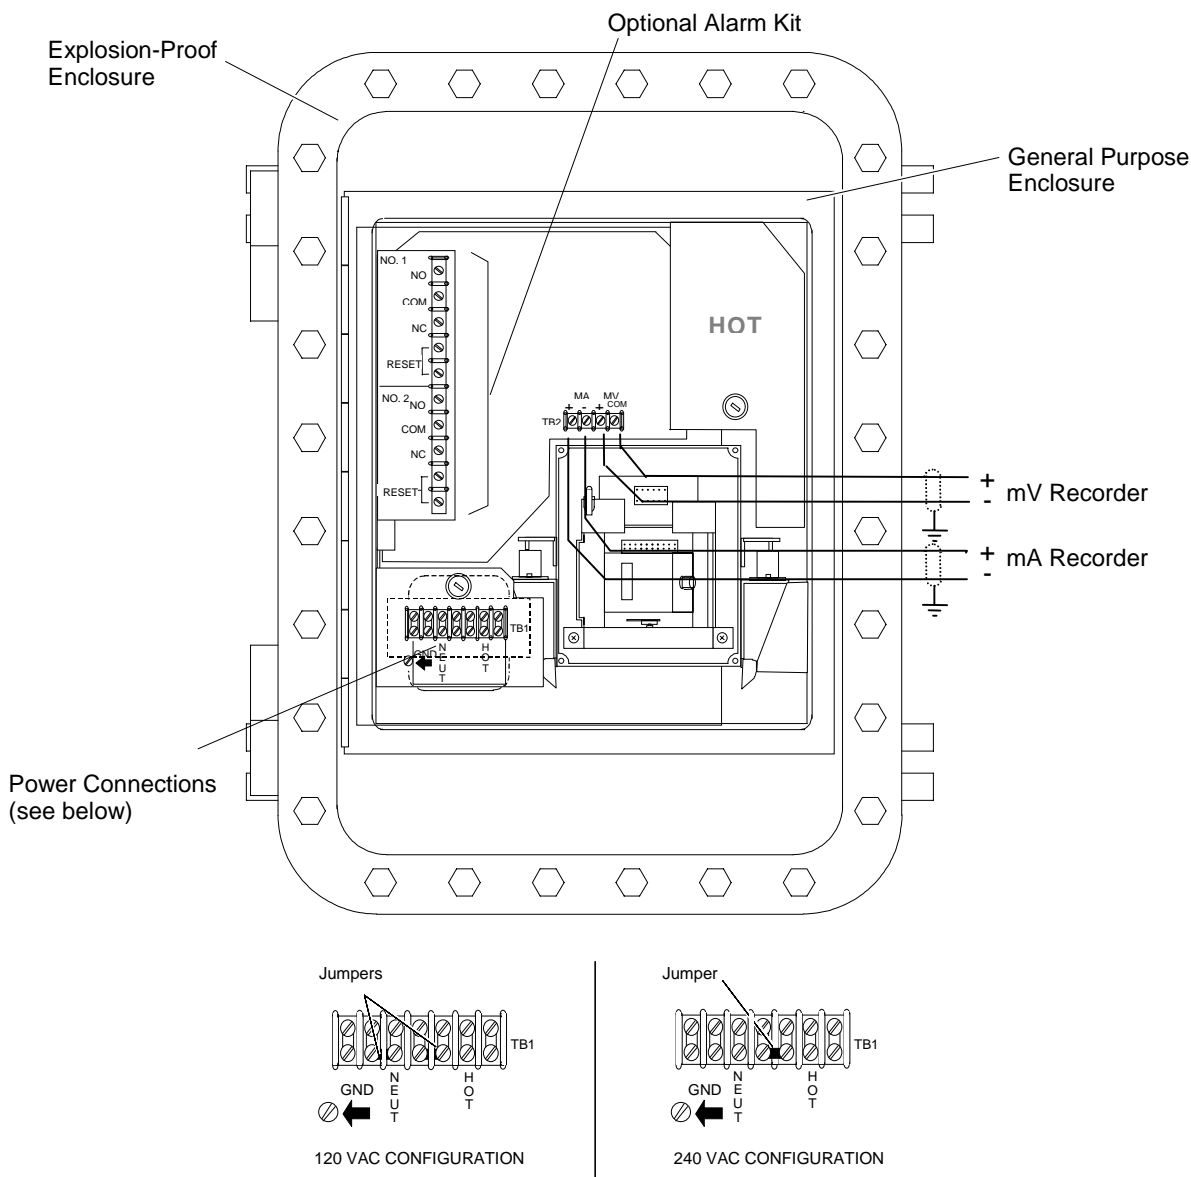

FIGURE 2-1. ELECTRICAL INTERCONNECTION
Electrical power is supplied to the analyzer via a customer-supplied three-conductor cable, type SJT, minimum wire size 18 AWG. Route power cable through conduit and into appropriate opening in the instrument case. Refer to Installation Drawing (632349 or 643127). Connect power leads to HOT, NEUT, and GND terminals on TB1, Figure 2-1. Connect analyzer to power source via an external fuse or breaker, in accordance with local codes.
2. On TB2, Figure 2-1, connect leads of shielded recorder cable to MV+ and COM terminals.
4. On TB2, Figure 2-1, connect leads of shielded recorder cable to MA+ and " - " terminals.
The alarm output provides two sets of relay contacts for actuation of alarm or process-control functions. Leads from the customer-supplied external alarm system connect to terminals on the Alarm Assembly, see Figure 2-1.
If desired the ALARM 1 or ALARM 2 alarm function may be converted to manual reset. The conversion consists of substituting an external push-button or other momentary-contact switch for the jumper that normally connects the RESET terminals on the Alarm Relay Assembly, see Figure 2-1. If the corresponding relay is now de-energized, i.e., in alarm condition, the relay remains de-energized until the operator momentarily closes the switch.